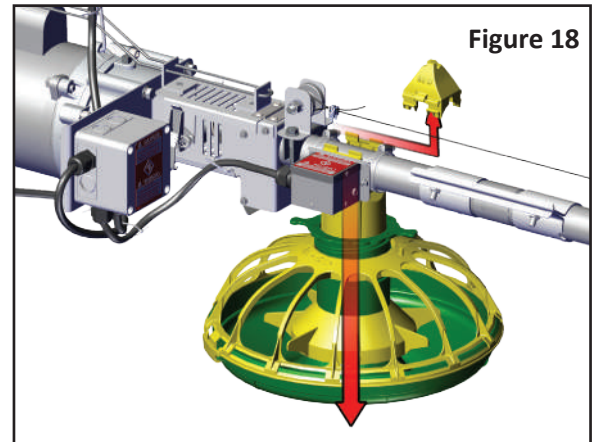

Figure 18
3. Remove tower from feed line, as shown in Figure 18.